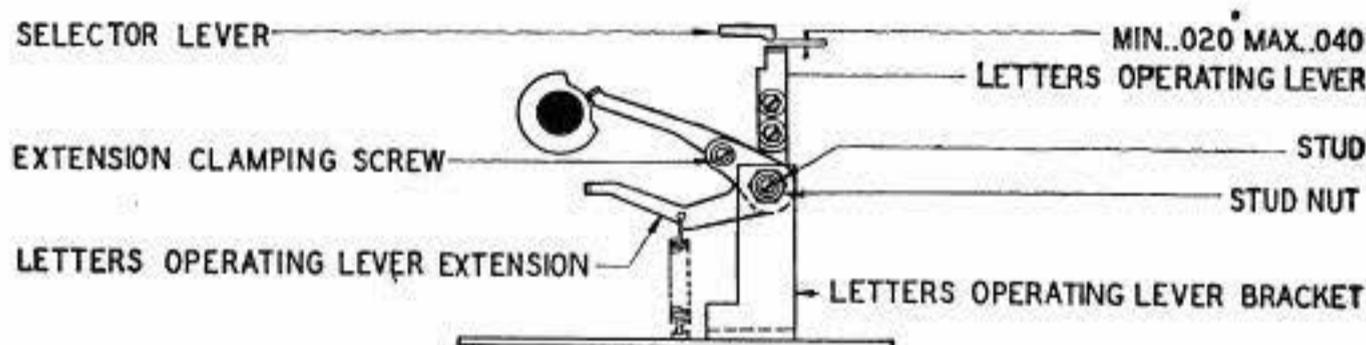

Fig. 14
3.40 **LTRS-operating-lever Vertical Extension:** Rotate the transmitting-cam cylinder until all selector-lever pins are in their selected (uppermost) position and the LTRS-operating-lever horizontal extension is on the low part of its cam. Under this condition there should be Min .020", Max .040" clearance, as indicated in Fig. 14, between the underside of the horizontal members of the selector lever and the top surface of the LTRS-operating-lever vertical extension. **Fig. 14**
3.41 LTRS-operating-lever Horizontal Extension: Move the tape-out contact-lever-latch lockout screw upward so that it is ineffective. Set up the LTRS combination and rotate the cam-sleeve manually until the LTRS-operating lever (Fig. 14) is resting on the low part of its cam. With the LTRS-operating lever in this position, there should be Min .010", Max .020" clearance between the latching surface of the tape-out contact-lever latch and the tape-out contact lever. **Figs. 14, 5(A)**←
(a) To adjust, loosen the horizontal extension clamping screw and position the LTRS-operating-lever horizontal extension with respect to the tape-out contact lever. **Fig. 14**←